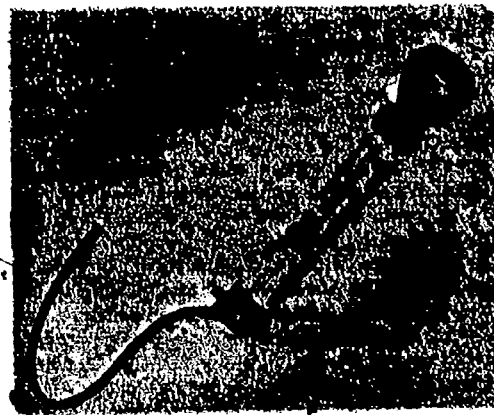

Fig 2-15. Hydrometer.
- c. Hydrometers (fig 2-15) are used for testing antifreeze solutions. The time intervals for testing, generally weekly, are established by local orders. Hydrometers usually come with instructions for their use. Their principle of operation is based on the fact that the specific gravity of the solution in the cooling system varies with the temperature at which the solution freezes. Tests should be made after the engine reaches its normal operating temperature. The hydrometer suction bulb is used to draw a sample of the solution from the radiator. Care should be taken to draw only enough solution to float the float. The temperature of the solution is matched to the specific gravity, and a conversion table indicates the temperature at which the solution will freeze. When making the test, it is a good practice to take two or more readings to insure accuracy.